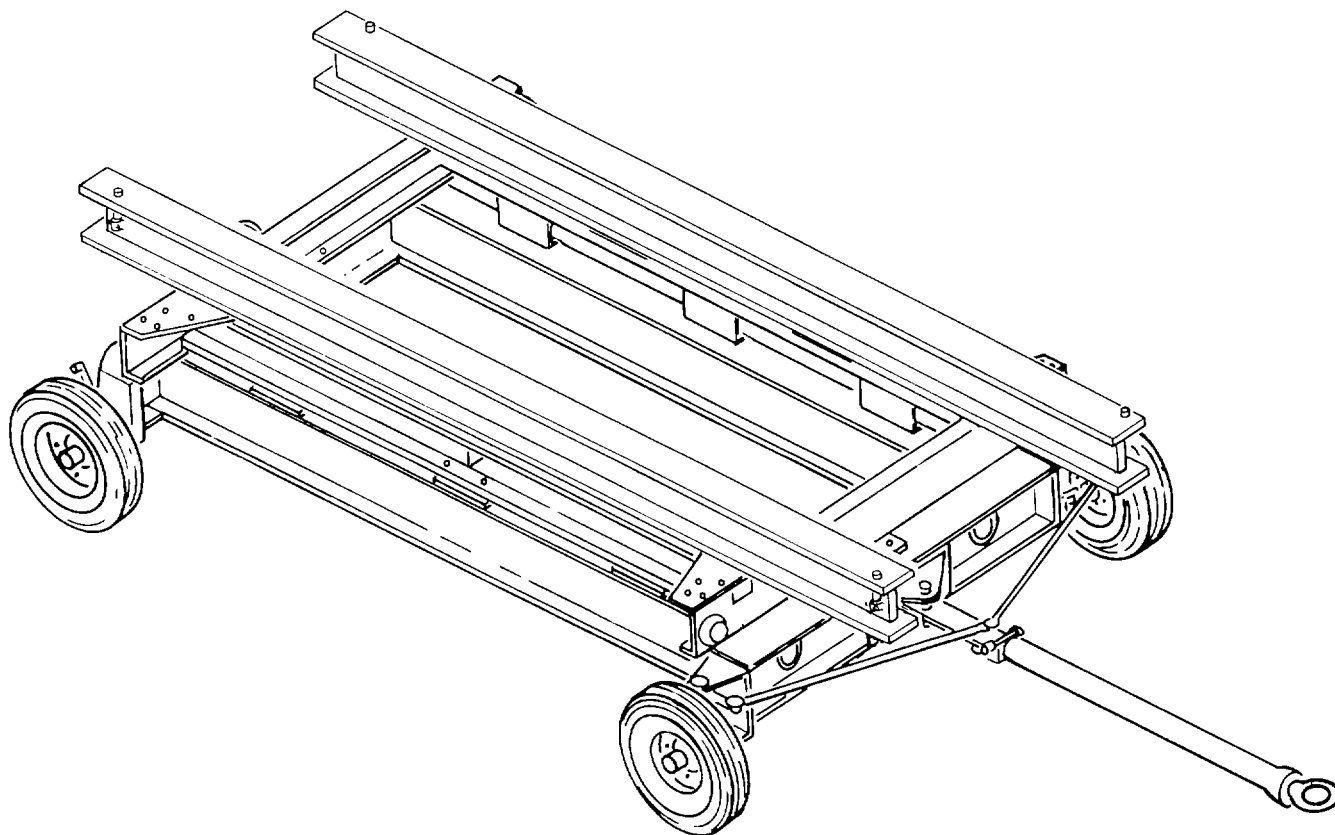

Figure 9-12. Engine Trailer
e. *Engine Trailer.* The engine trailer, shown in figure 9-12, is a 4-wheeled, towable trailer with two rails mounted on it. Various engines can be loaded on and transported by using different adapters.